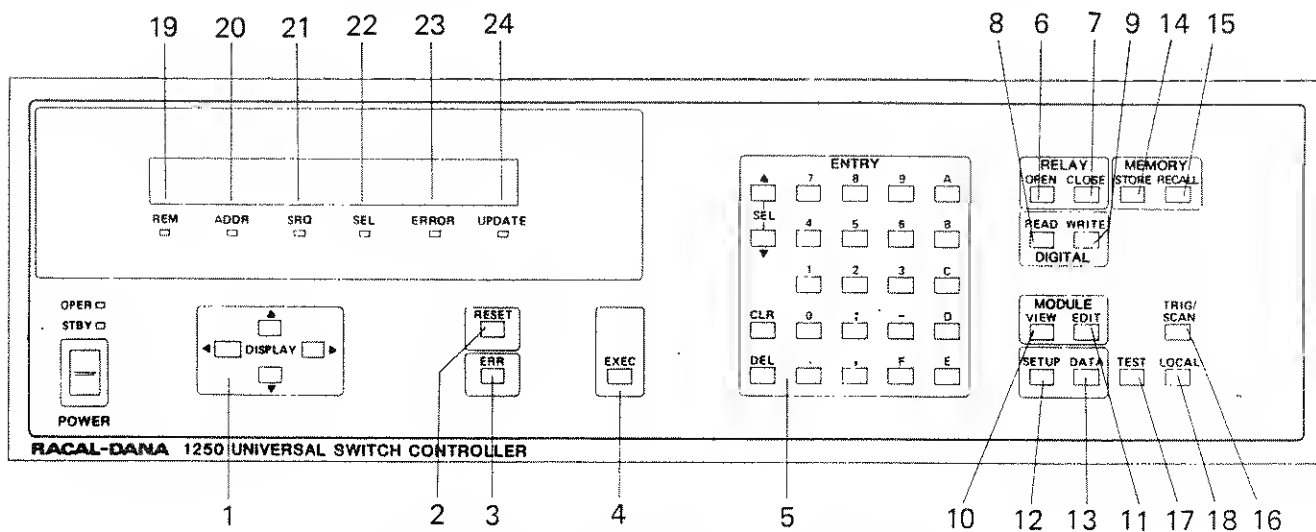

Figure 3-X, 1250 Intelligent Front Panel
3.10.2.1 Refer to Figure 3-X for an illustration of the 1250 Intelligent Front Panel (Option 90) and to Table 3-X for descriptions of the features of the 1250 Intelligent Front Panel.